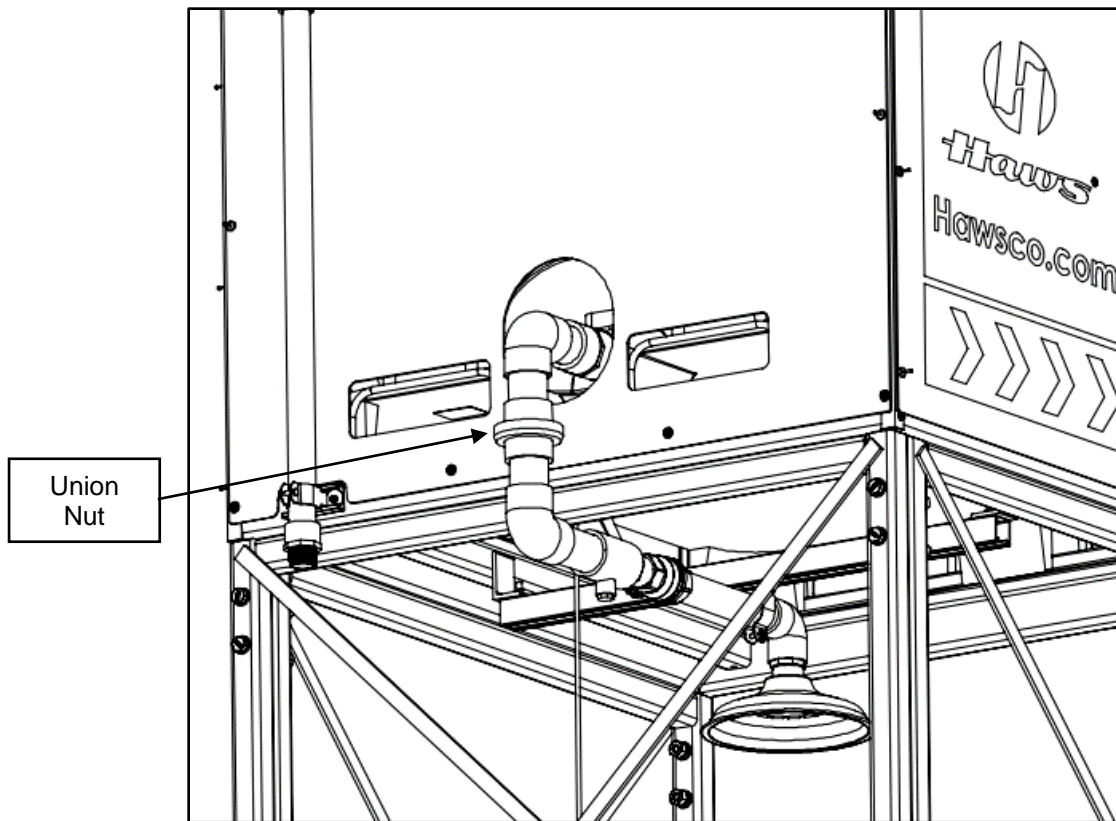

Figure 16. Installing the Shower Pipe Mount Steel Strut and Shower Piping Assembly to the Tank Union
22. Install the Shower Piping Assembly (Item #11) from the back of the shower by threading the union nut on the assembly to the union end on the tank as shown in Figure 16.